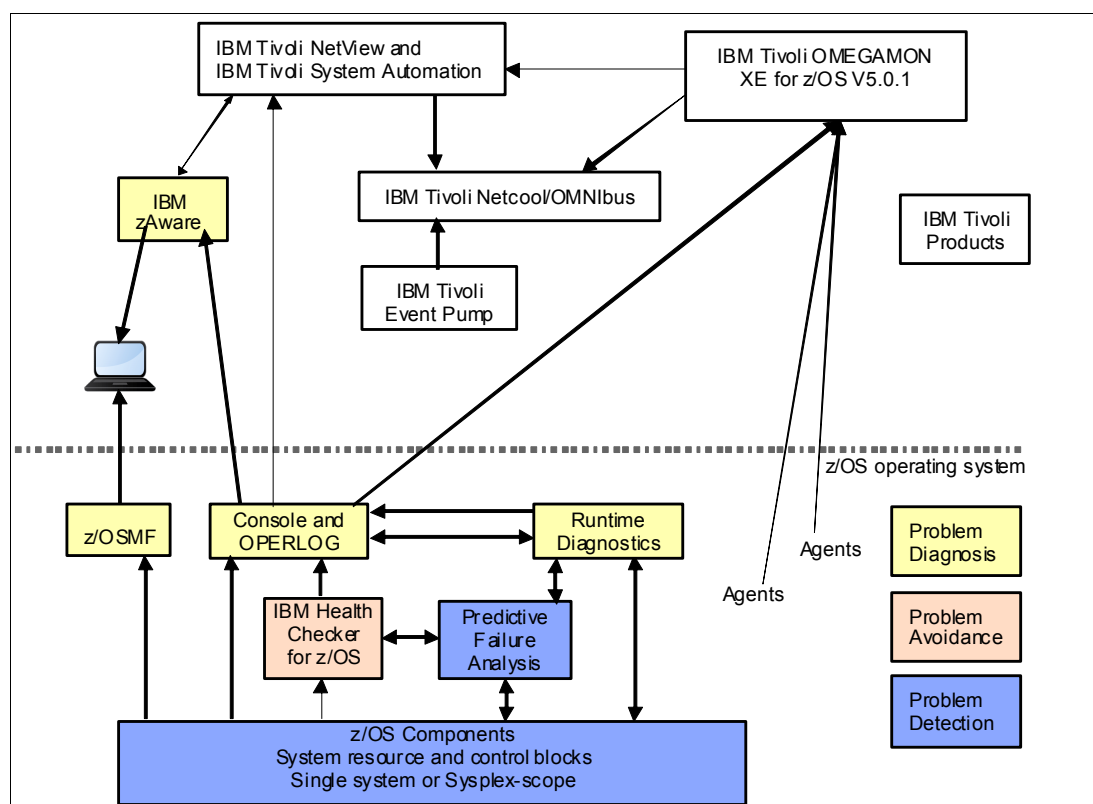

Figure 2-2 Systems management functions and products
Figure 2-2 provides a simplified view of the various z/OS system management functions and products, identifies their locations in relation to z/OS, and gives a rudimentary view of their interfaces.
- ▶ The IBM Tivoli NetView CANZLOG function consolidates messages from the z/OS syslog and the NetView netlog. NetView can automate messages from either of these sources. Additionally, as shown in Figure 2-2, NetView is able to use the IBM zAware API to retrieve information from the IBM zAware LPAR, allowing you to consolidate information from IBM zAware into the NetView operator interface.